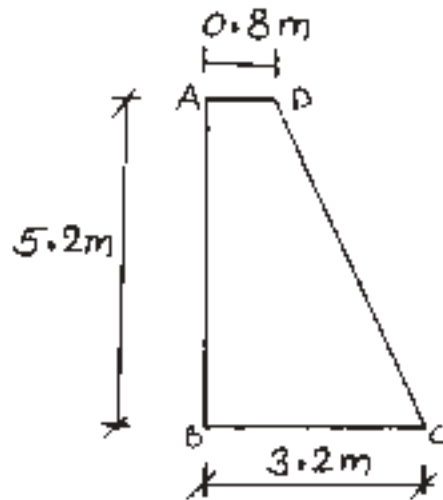

Fig. No. 8
- a) Calculate the position of centroid from bottom left corner 'B' for a retaining wall as shown in Fig. No. 8.